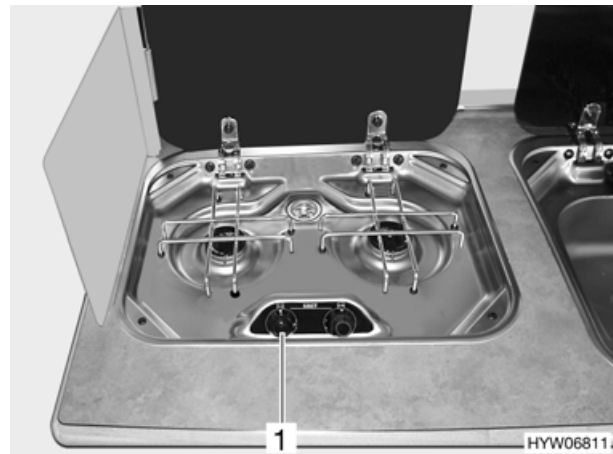

Fig. 79 Operating controls for gas cooker
- Turn the control knob (Fig. 79,1) on the burner you wish to use to the ignition position (large flame).